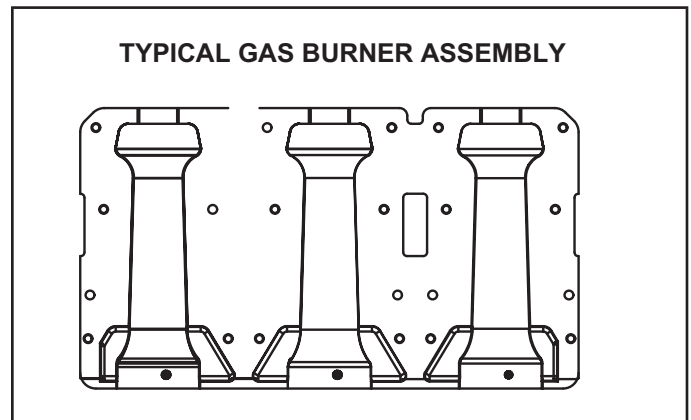

FIGURE 34
- 3 - Burner assembly is a cluster assembly (FIGURE 34) and can be removed as one.